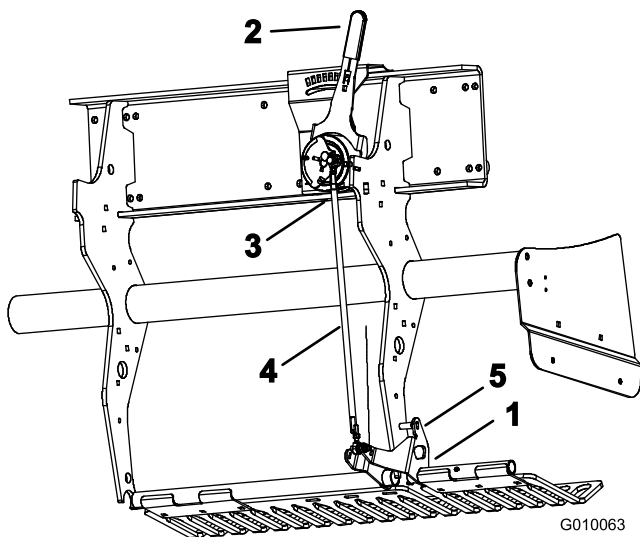

Figure 59
1. Rotate the LH turf guard mounting bracket (Figure 59) up until a locking pin (5/16 drill rod or bolt) can be inserted between the bracket and the depth setting tube welded to the frame.
2. Move the tine depth lever (Figure 59) to the H setting (deepest).
3. Disconnect the outboard ball switch (Figure 59) from the wire harness (Head-Low switch).
4. Loosen the jam nuts (LH and RH) on the depth adjustment tie rod (Figure 59).